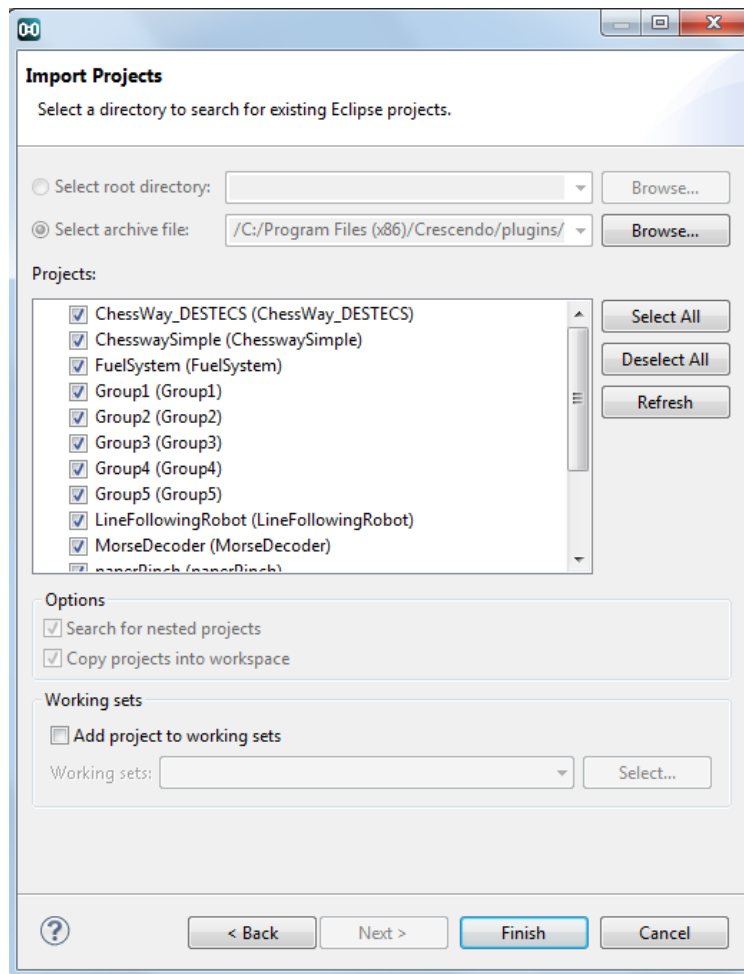

Figure 5.10: Import projects.
- A compressed archive file may contain multiple projects. Select the projects that you want to import as shown in Figure 5.10.